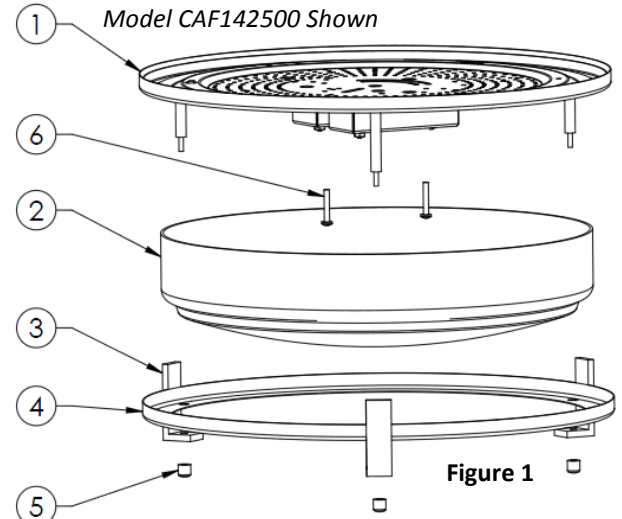

Figure 1
- B. Carefully remove the fixture from the carton, and check that all parts are included, as shown in Figure 1